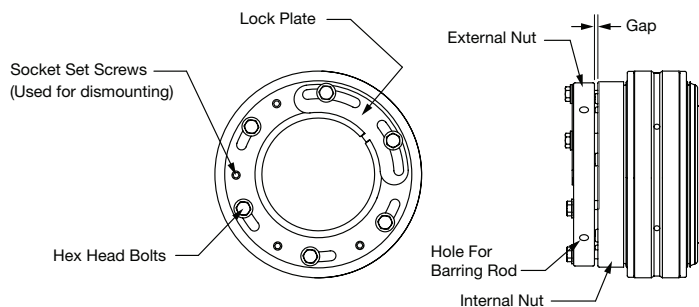
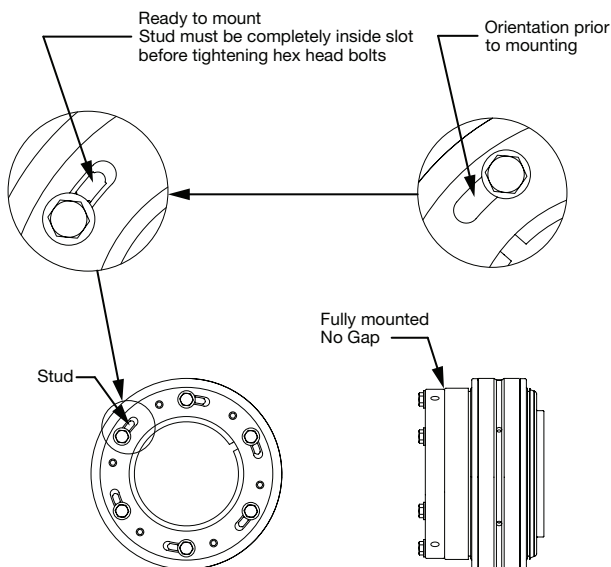
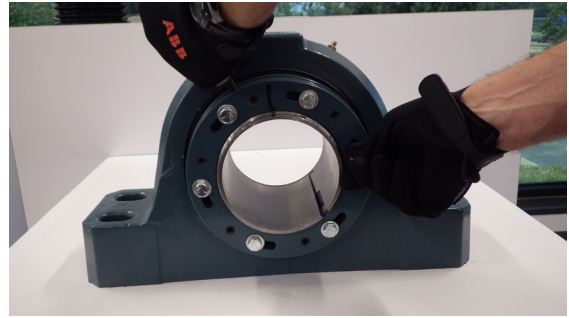
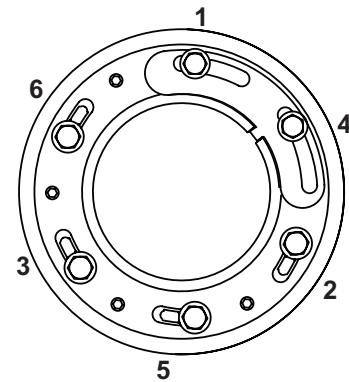

Figure 1 - Bearing with dual nut as shipped with gap.
Figure 3 - Nut rotated and ready for installation
Figure 4 - Holding external nut with rod and rotating internal nut C-Clockwise using hex head bolt
Figure 5 - Correct installation star pattern
The locknut assembly is comprised of an external nut and internal nut. The bearing is shipped such that there is a gap between the two nuts. The two nuts must maintain this gap prior to mounting the bearing. The dual nut configuration prior to installation is shown in Figure 1. Note the position of the external nut slots relative to the hex cap bolts.
- Loosen but do not remove the hex head bolts. Use 9mm rod to hold external nut in position when loosening the hex head bolts. While holding the external nut with a 9mm rod, grasp one of the hex head bolts, and rotate the internal nut counter clockwise to shoulder the hex head bolts as shown in Figure 3. See Figure 4 demonstrating this step. If the external nut moves during this step, it is imperative to reposition the nut assembly so that the external nut is positioned with the alignment mark made in step 4 before proceeding to the next step. Make sure the spacing stud is visible in the slot as shown in Figure 3, or the nut will not install correctly.
- At this point the machined studs used to create the gap have been positioned inside the elongated slots, and the two nuts can be pulled together, which installs the bearing on the shaft. If the external nut moves during this step, it is imperative to reposition the nut assembly so that the external nut is positioned with the alignment mark made in Step 4 before proceeding to the next step. Gradually tighten the hex head bolts in a star pattern, as shown in Figure 5, until the external nut firmly seats against the internal nut and the gap is completely closed as shown in Figure 3 (Not yet full torque).
- Remove two hex head bolts nearest to the slot in the adapter. A slight gap may appear between the two nuts when these two hex head bolts are removed. This is a normal occurrence and the gap will close up when the two hex head bolts are reinstalled. Install the lock plate so that the tab fits into the adapter slot. If the lock plate does not line up with the two holes, it can be flipped over to fit as shown in Figure 1. Reinstall the two hex head bolts to secure the lock plate. Using a star pattern, as shown in Figure 5, torque the hex head bolts to the values shown in Table 1. It is considered a best practice to initially tighten the hex head bolts to 50% of full torque, then tighten again to 100% full torque (using the star pattern both times).